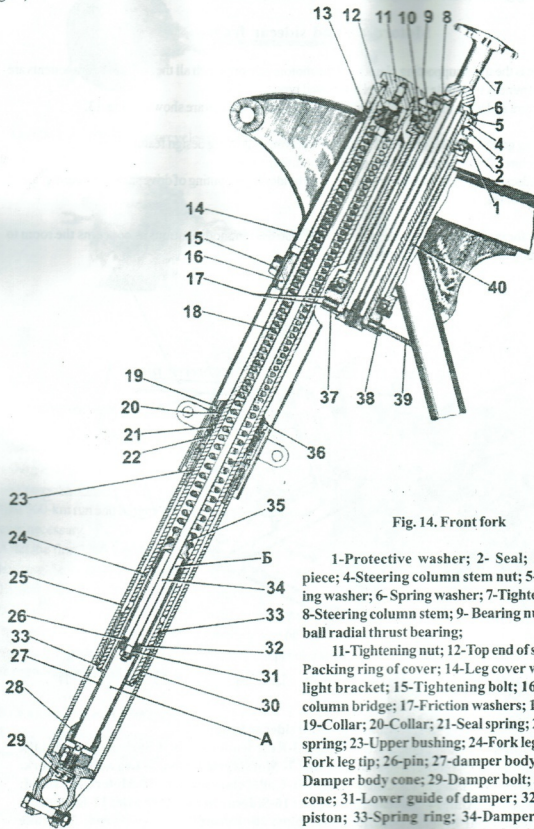

Fig. 14. Front fork
The front fork is of telescopic type with internal springs and the double-action hydraulic shock absorbers (Fig.14).
Each front fork leg is filled through openings under tightening nuts (2) with 135 cubic centimeters of oil used for engine (Fig 14, item 11)